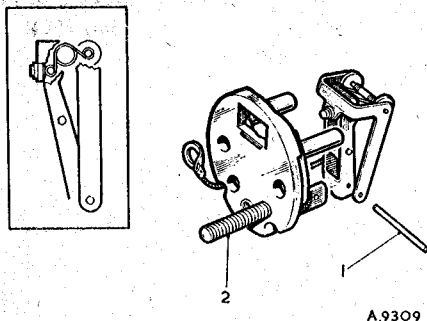

Fig. 3. Fitting the rocker assembly to the pedestal. (Inset) the correct position of the centre toggle spring
1. Invert the pedestal and fit the rocker assembly to it by pushing the steel pin (1) (Fig. 3) through the small holes in the rockers and pedestal struts. Then position the centre toggle so that, with the inner rocker spindle in tension against the rear of the contact point, the centre toggle spring is above the spindle on which the white rollers run. This positioning is important to obtain